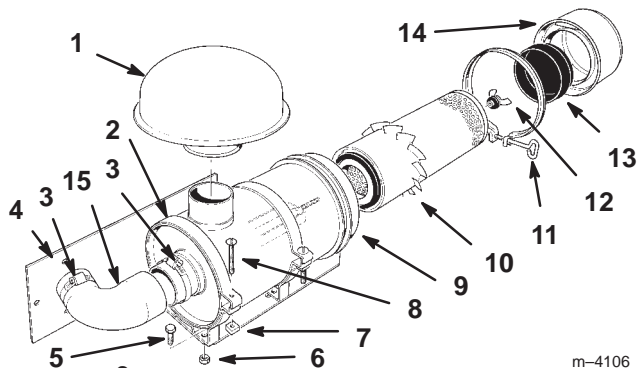

Figure 4
5. Remove machine screws and square nuts securing air cleaner mounting bands to air cleaner body. Remove mounting bands (Fig. 4).
6. Secure mounting bands to mounting bracket with capscrews and locknuts (Fig. 4).
7. Slide air cleaner body between mounting bands and secure with machine screws and square nuts previously removed (Fig. 4).
2. Loosen thumb screw until dust cup and baffle can be removed. Separate dust cup and baffle (Fig. 4).
3. Dump dirt out of the dust cup. After cleaning cup and baffle, reinstall both parts with TOP of dust cup up (Fig. 4).
4. Remove wing nut w/gasket and slide filter element out of air cleaner body (Fig. 4).